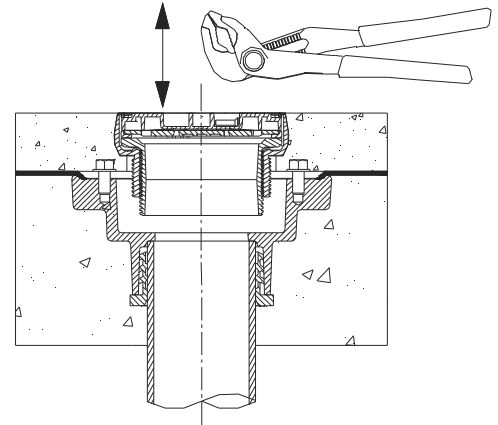

Fig. 7
- Hit the top of the rough-in cover with a pair of adjustable pliers to loosen bond with the concrete. Continue hitting the rough-in cover until a visible crack forms around the entire circumference of the rough-in cover. Rough-in cover should appear loose (lifts up from concrete). See Fig. 7